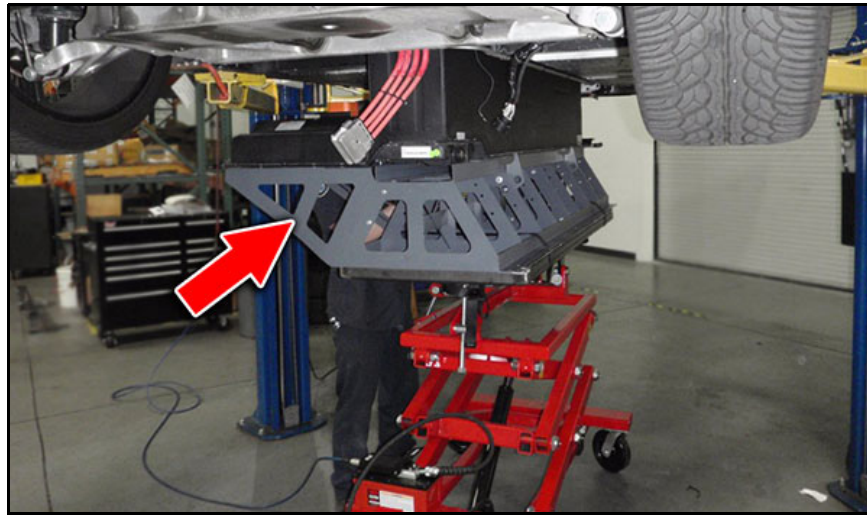

Figure 3K
3.12. Place the Fisker Service Tool **FST1001 – HV Battery Pack Support Fixture** (red arrow in Figure 3K) on the lifting table (OTC 1595 or equivalent) and secure by bolting or strapping the fixture to the lift table. This fixture will give you enough space to remove the bolts along both sides of the HV Battery Pack. After removal of all bolts, carefully lower the HV Battery and transport to a suitable area within the shop which gives enough room to remove the HV battery from the lift table and cradle. Tape off the opening where the MSD was removed for safety.